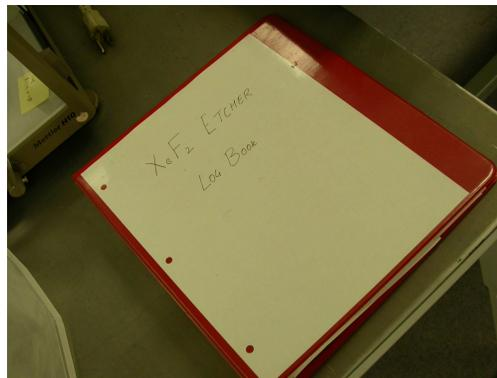

Figure 2.29
- 5) Write down the process in the log book (Figure 2.29)